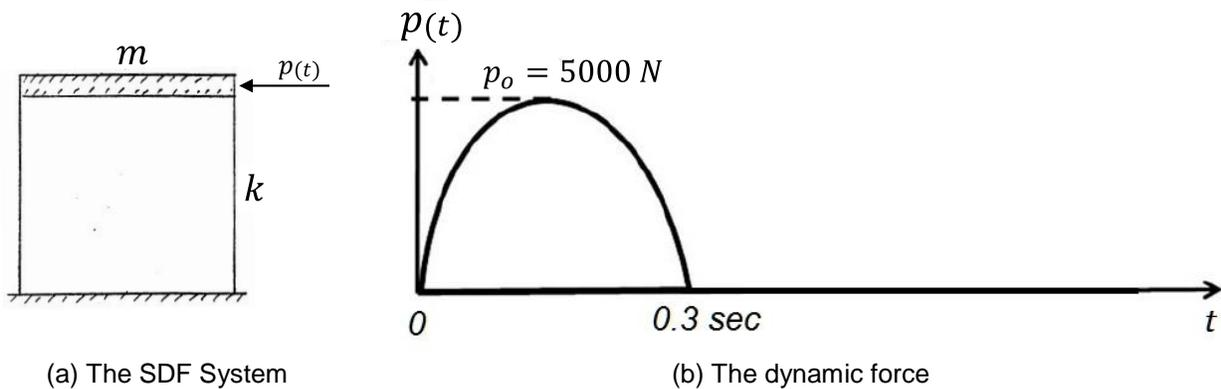

Figure 1: An SDF system subjected to a half sine pulse force
Consider the following SDF system with  $m = 2000 \text{ Kg}$ ,  $k = 800,000 \text{ N/m}$  and  $\xi = 0.027$  subjected to a dynamic loading  $p(t)$  as shown in Figure 1 (b).
**Task 1:** Construct a computer model of this simple structure using ETABS or SAP 2000. Subject the model to a the dynamic force shown in Figure 1. Analyze the model and determine the forced vibration response of system under this force.